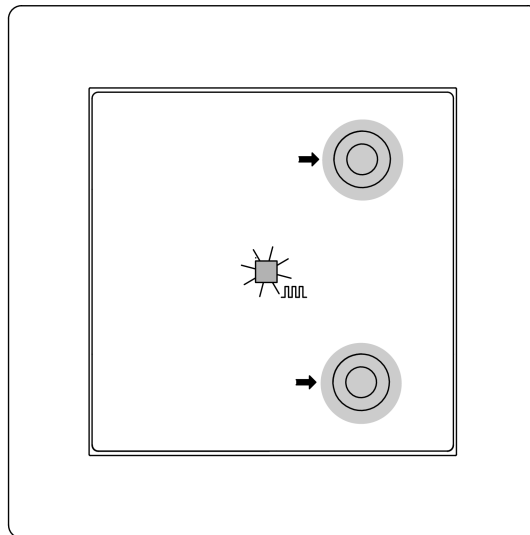
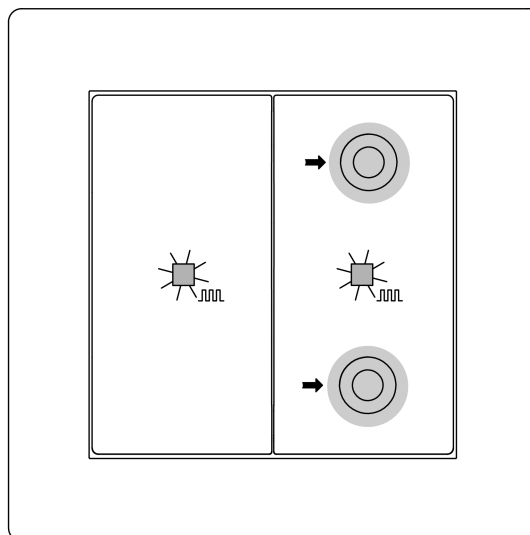

Figure 3: Activating programming mode (1-gang)
Figure 4: Activating programming mode (2-gang)
Programming the physical address and application program, 1-gang (see figure 3) and 2-gang (see figure 4)
- Activate programming mode: Press the top right button and bottom right button simultaneously and hold for longer than 4 seconds with 1-gang (see figure 3) and 2-gang (see figure 4).